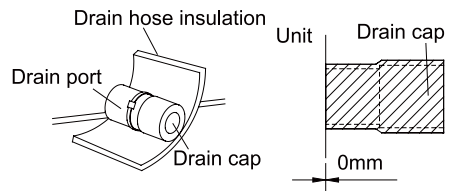

Fig.21
10. The unused drain port also should be insulated properly.(Fig.21)